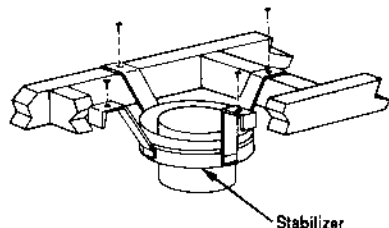

Figure 30
1. Use Offset Chart to determine amount of horizontal offset (A) and height (B) for various chimney sections.
3. Use Elevation Chart as job estimator only. Add necessary firestop spacers and stabilizers as required. Firestop spacers must be used as shown in Figures 24 and 25 and stabilizers as shown in Figure 30.